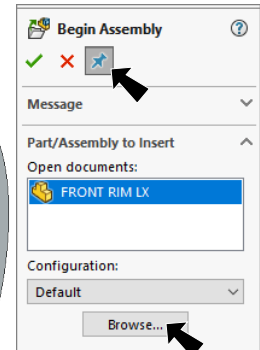

Fig. 1
click **Keep Visible** , **Fig. 1**
Step 4. Click **Browse** in the Property Manager, **Fig. 1**.